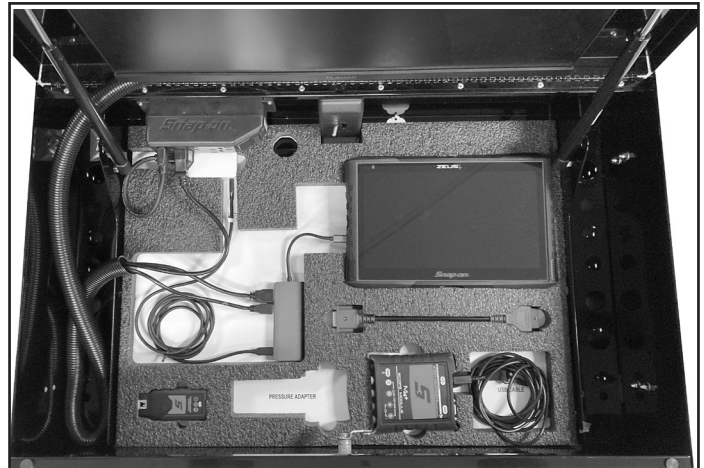

Figure 1
3. Open the top lid and remove the packing from the upper tray (Figure 1).